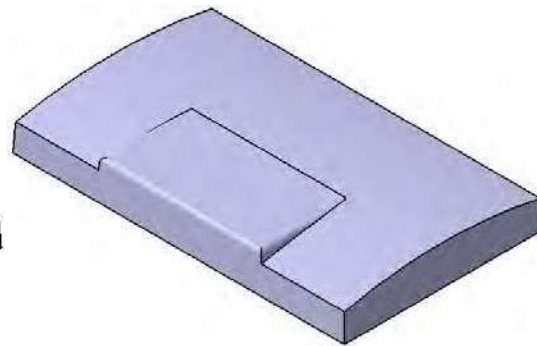

*Figure 5-93 Model after drafting all the vertical faces*
- c. Add the draft feature to all faces of the model except the upper and the lower faces, refer to Figure 5-93.
4. Set the value of the **Angle** spinner to **3** and choose the **OK** button from the **Draft Definition** dialog box. The model, after creating the draft feature, is shown in Figure 5-93.